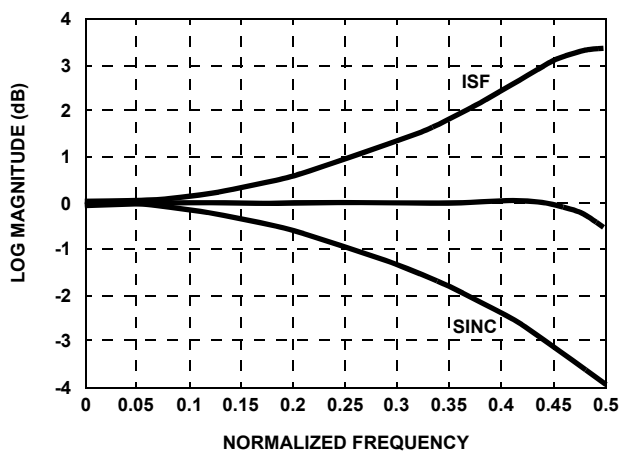

FIGURE 18. X/SIN(X) FILTER RESPONSE
The output is rounded to 16-bits. The output of the filter is not checked for saturation since the maximum sum of products is $486/512$ (0.949) and overflow will never occur. The data exits the X/SIN(X) filters as a parallel I<15:0> and Q<15:0> data streams at the final sample rate. Figure 18 plots of the inverse sinc function, sinc function, and the effect of compensation.